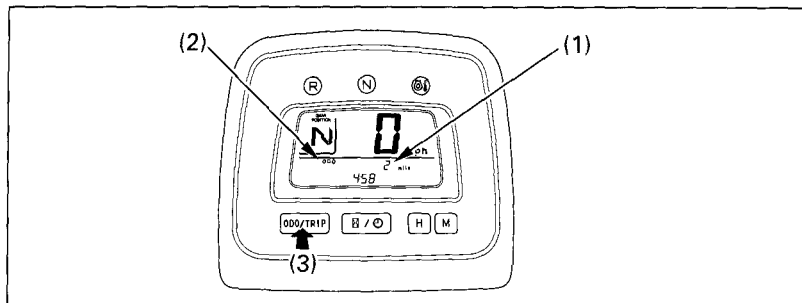

Fig. 2-17 (1) Odometer (3) Odometer/Tripmeter select button
When selected, the odometer (1) (Fig. 2-17) registers total distance traveled in miles while the ignition is ON ( I ). To change the display (2) from tripmeter to odometer, press and release the Odometer/Tripmeter select button (3).